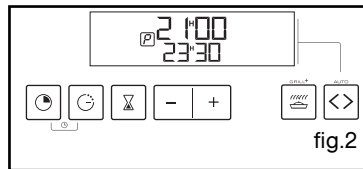
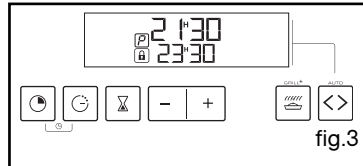

fig.2
fig.3
- Remove the first clipped in glass as follows: Insert the other two red stops in the **A** locations provided for this purpose (fig.2). Create a lever effect on these parts to unclip the glass (fig.3).
The display will tell you at what time you can use your oven again (fig.2).
During the self-cleaning cycle, a padlock  appears on the display, to tell you that the door is locked (fig.3).
At the end of the self-cleaning cycle, the display will tell you (see (fig.2)).